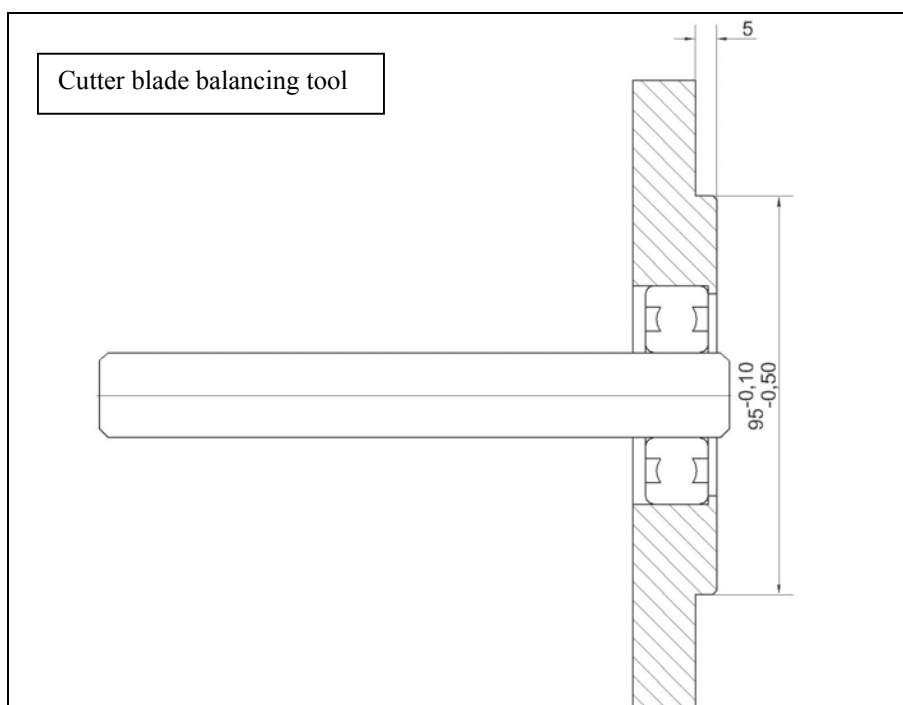

Fig. 61
- Use the special device for balancing the blade (Fig. 61)